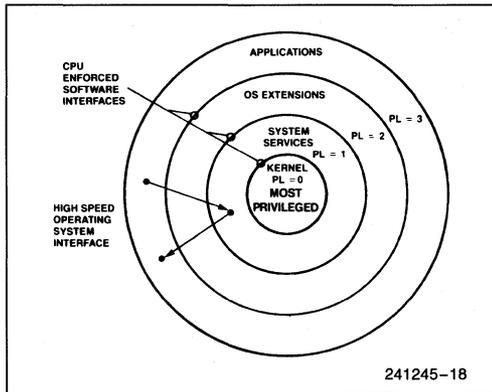

Figure 4.14. Four-Level Hierarchical Protection
The four-level hierarchical privilege system is illustrated in Figure 4-14. It is an extension of the user/supervisor privilege mode commonly used by minicomputers and, in fact, the user/supervisor mode is fully supported by the Intel486 DX Microprocessor paging mechanism. The privilege levels (PL) are numbered 0 through 3. Level 0 is the most privileged or trusted level.